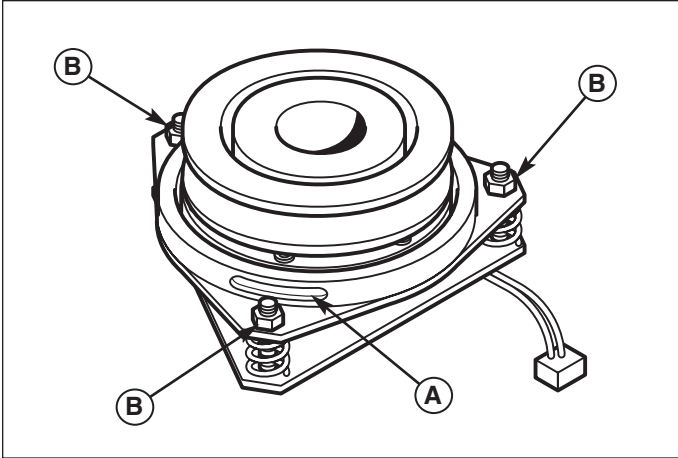

Figure 27. PTO Clutch Adjustment
2. See Figure 27. Note the position of the 3 adjustment windows (A) in the side of the brake plate and the nylock adjustment nuts (B).
4. Alternately tighten the adjustment nuts (B, Figure 27) until the rotor face and armature face just contacts the gauge.